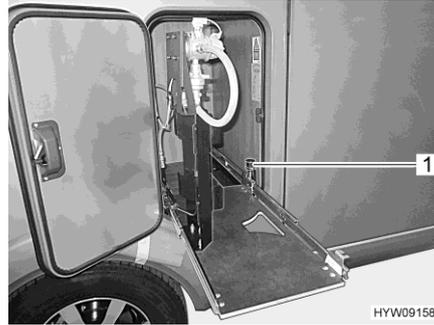

Fig. 119 Gas bottle compartment pull-out in changing position
- Pull the knob (Fig. 119,1) upwards. The gas bottle compartment pull-out is unlocked.